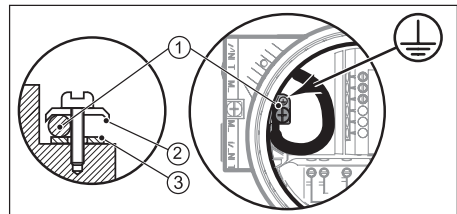

Fig. 4.2 Earth wire connection
- * If required, mount earth wire (1) between top (2) and stainless steel washer (3) of earth wire connection (see figure 4.2).